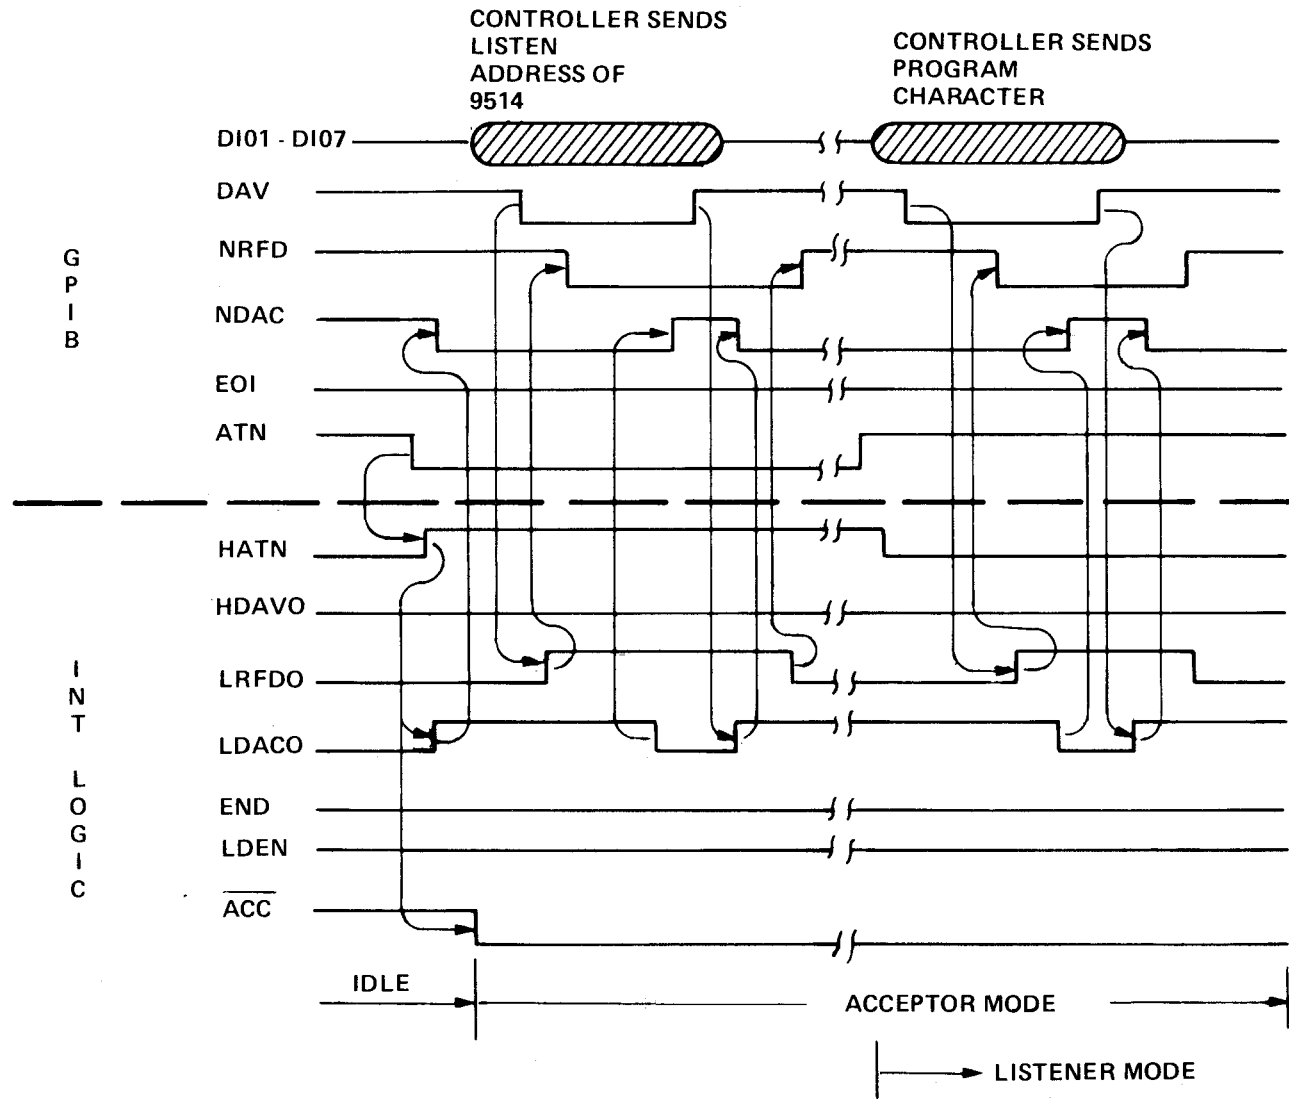

Figure 1.50 - Source Mode Timing Diagram
1.5.4.4.4 The source mode is entered whenever ATN is high and the 9514 counter has been addressed as a talker. Figure 1.50 shows the timing of pertinent signals in the source mode. It is assumed that the 9514 counter is sending the last byte of measurement data (EDI asserted) before the controller asserts ATN and proceeds to untalk the counter. Notice that  $\overline{\text{ACC}}$  is set high during the source mode allowing ATN to force the 9514 into its Acceptor Ready State as seen by the controller.